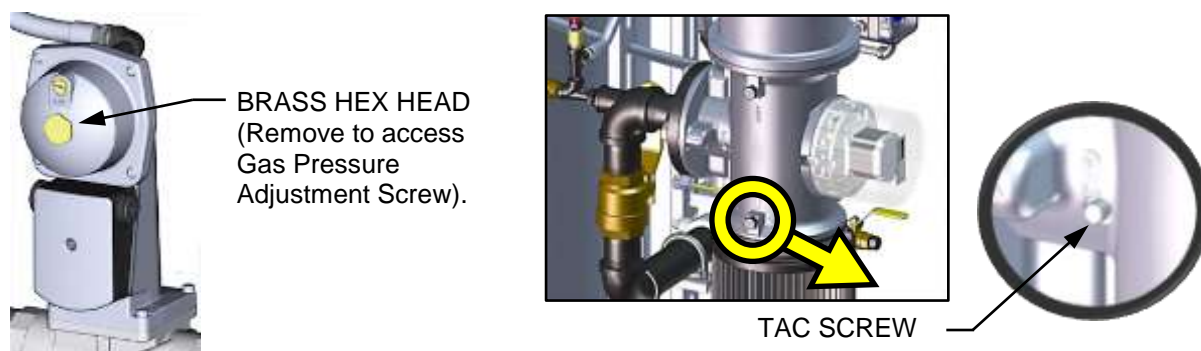

Figure 4-3: Gas Pressure Adjustment Screw and TAC Screw Location
14. Next, verify that the manifold gas pressure, downstream of the SSOV, is within the range in Table 4-1, for the model you are calibrating. If gas pressure adjustment is required, remove the brass hex nut on the SSOV actuator to access the gas pressure adjustment screw (Figure 4-3). Make gas pressure adjustments using a flat-tip screwdriver to obtain a gas pressure in the range specified in Table 4-1.
26. With the valve position at 100%, if the oxygen level is not within the required tolerance after adjusting the blower voltage, then the gas pressure on the downstream side of the SSOV must be adjusted using the gas pressure adjustment screw on the SSOV (Figure 4-3). Slowly rotate the gas pressure adjustment in 1/4-turn increments, clockwise to reduce O₂ level or counterclockwise to increase it. Allow the combustion analyzer to stabilize following each adjustment.
30. If the oxygen level at the 18% valve position is too high and the Blower voltage is at the minimum value, you can adjust the TAC screw, which is recessed in the top of the Air/Fuel Valve (see Figure 4-3). Rotate the screw 1/2 turn clockwise (CW) to add fuel and reduce the O₂ to the specified level. Recalibration *MUST* be performed again from 50% down to the lowest valve position after making a change to the TAC screw.
14. Next, verify that the gas pressure downstream of the SSOV is within the range in Table 4-4 for the model you are calibrating. If gas pressure adjustment is required, remove the brass hex nut on the SSOV actuator to access the gas pressure adjustment screw (Figure 4-3). Make gas pressure adjustments using a flat-tip screwdriver to obtain a gas pressure approximately shown in Table 4-4.